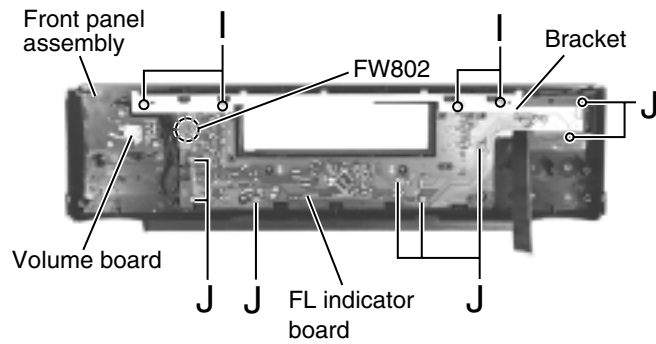

Fig.15
■ Removing the Front board (See Fig.15)